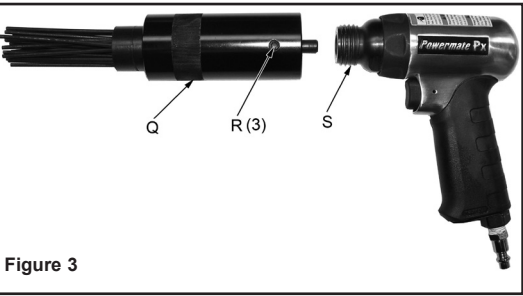

Figure 3
- Assemble the needle scaler attachment (Q) to the end of the needle scaler body (see Figure 3). Tighten the 3 set screws (R) located on the side of the needle scaler attachment.